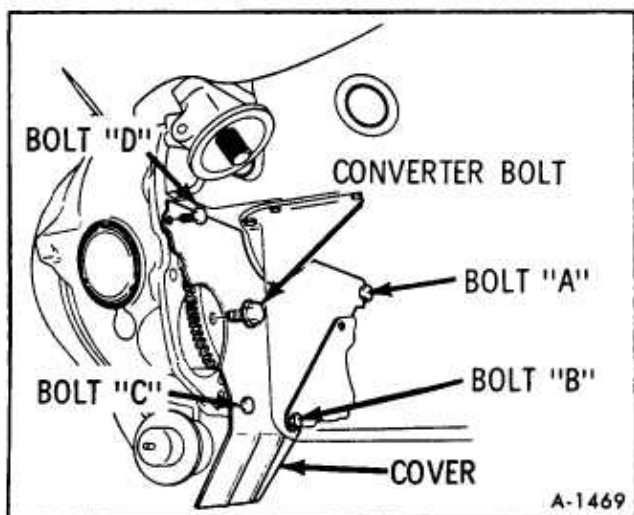

Figure 57-Flywheel Cover Removal
6. Referring to Figure 57, remove flywheel cover bolts "B", "C" and "D". Loosen bolt "A" and pivot cover out of the upper L.H. bolt "A" slot.
NOTE: Rotate flywheel to gain access (Refer to figure 57).
NOTE: Rotate flywheel to gain access. Refer to Figure 57.
14. Referring to Figure 57, install flywheel cover and tighten bolts "A", "B", "C" and "D" to 5 ft. lbs. torque.